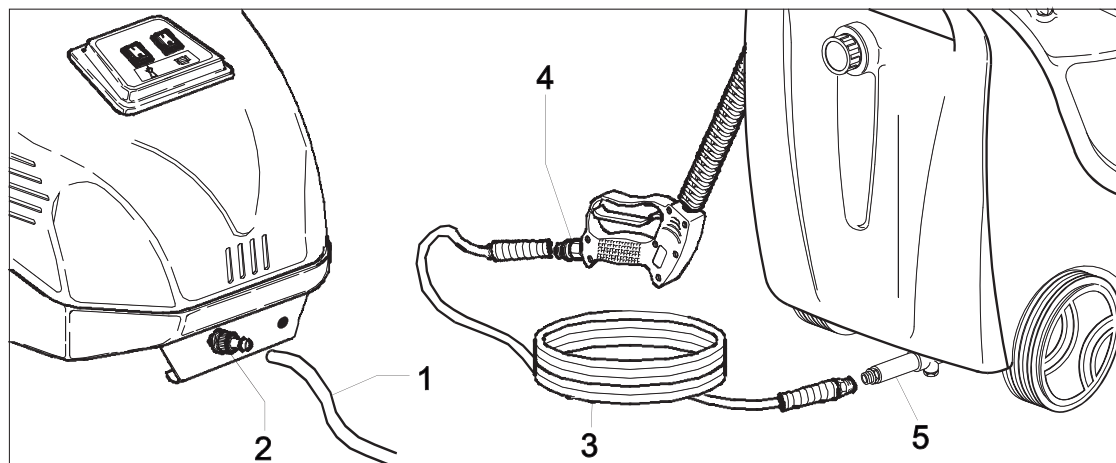

Fig.6
Connect the water feeling hose (pos. 1) to the entrance nipple (pos.2). See fig.6 on page 9.
Connect the high-pressure hose (pos.3 fig.6) to the gun (pos.4) and with the other end of the high-pressure hose to the outlet nipple (pos.5) locking it in firmly.